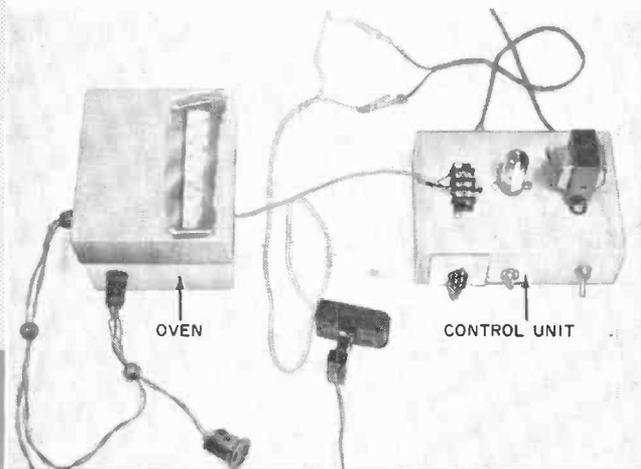

Fig. 4. A cardboard-box "oven" will be required to calibrate the thermostat. Christmas-tree bulbs serve as source of heat.
**Calibration.** While it's possible to calibrate the thermostat in a variety of ways, building the calibration setup pictured in Figs. 4 and 5 will greatly simplify the problem. A small cardboard box, approximately 4" x 5" x 6"; an accurate, easily read thermometer; some hookup wire; and a Christmas-tree light set with standard, 117-volt a.c. bulbs are all the materials you'll need.